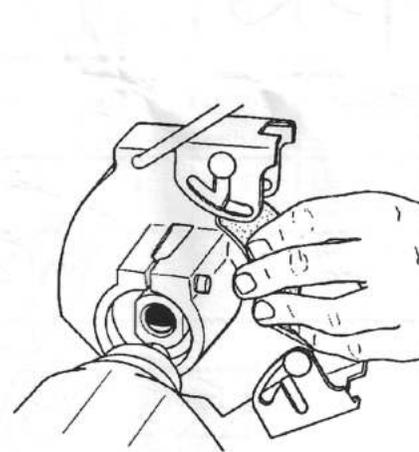

Fig. 19
20. Place the "neck" of the grinding wheel guard on the Mark V quill, as demonstrated in Fig. 19. Do not tighten anything yet.